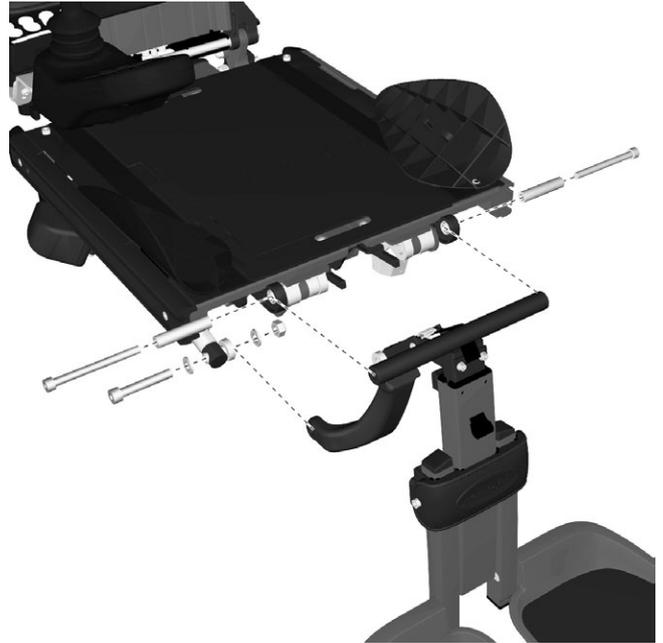

*Figure 221. The legrest is held in place by two screws and spacers. The front bracket of the actuator is held in place by a screw and lock nut.*
4. Remove the front bracket of the manual adjustment unit/actuator. See fig. 221. Start with the lock nut and the washer on the inside of the bracket, then remove the screw and washer.